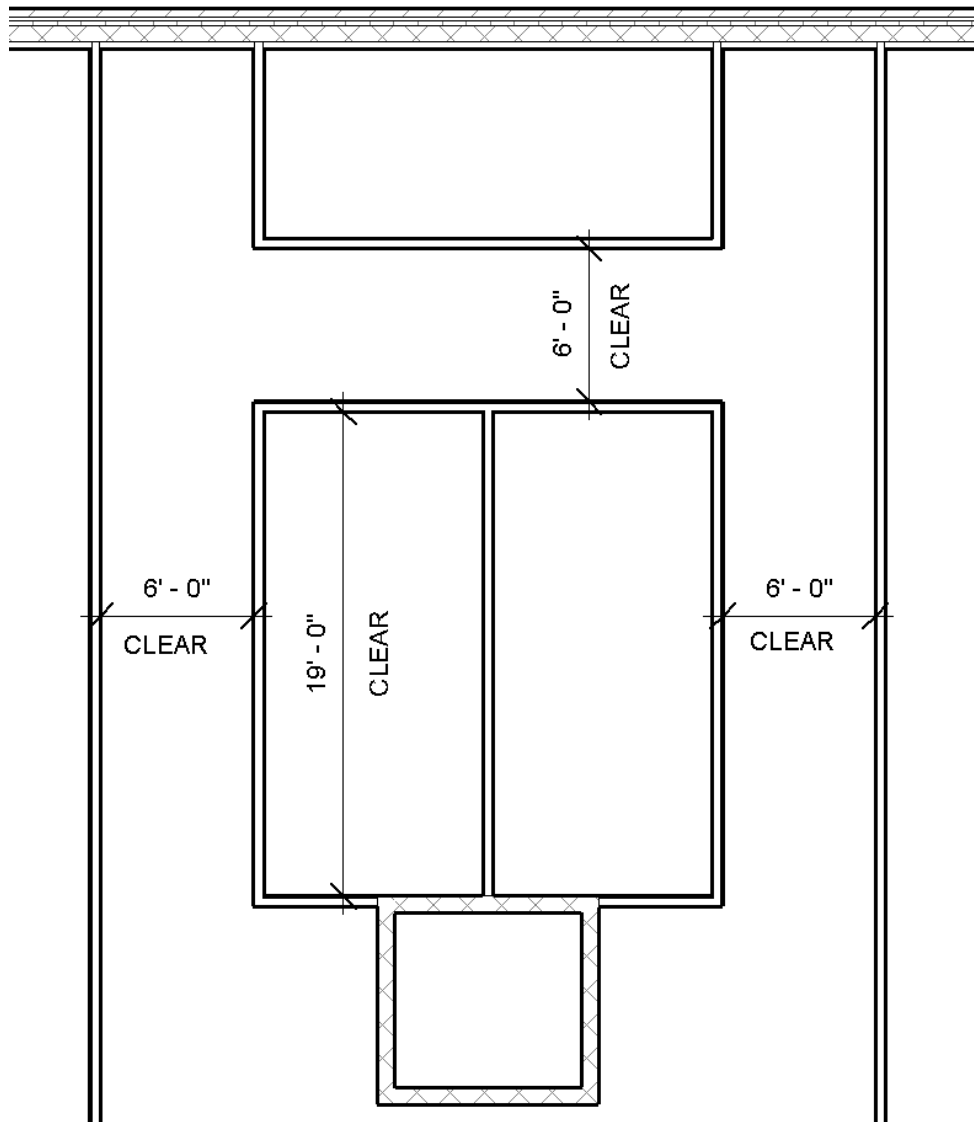

Figure 3-3.11 Remaining interior walls
31. Draw the additional walls shown in Figure 3-3.11. Make sure to position the walls per the dimensions shown. Use the *Measure* tool to verify accuracy. Also, modify the *Location Line* as required.